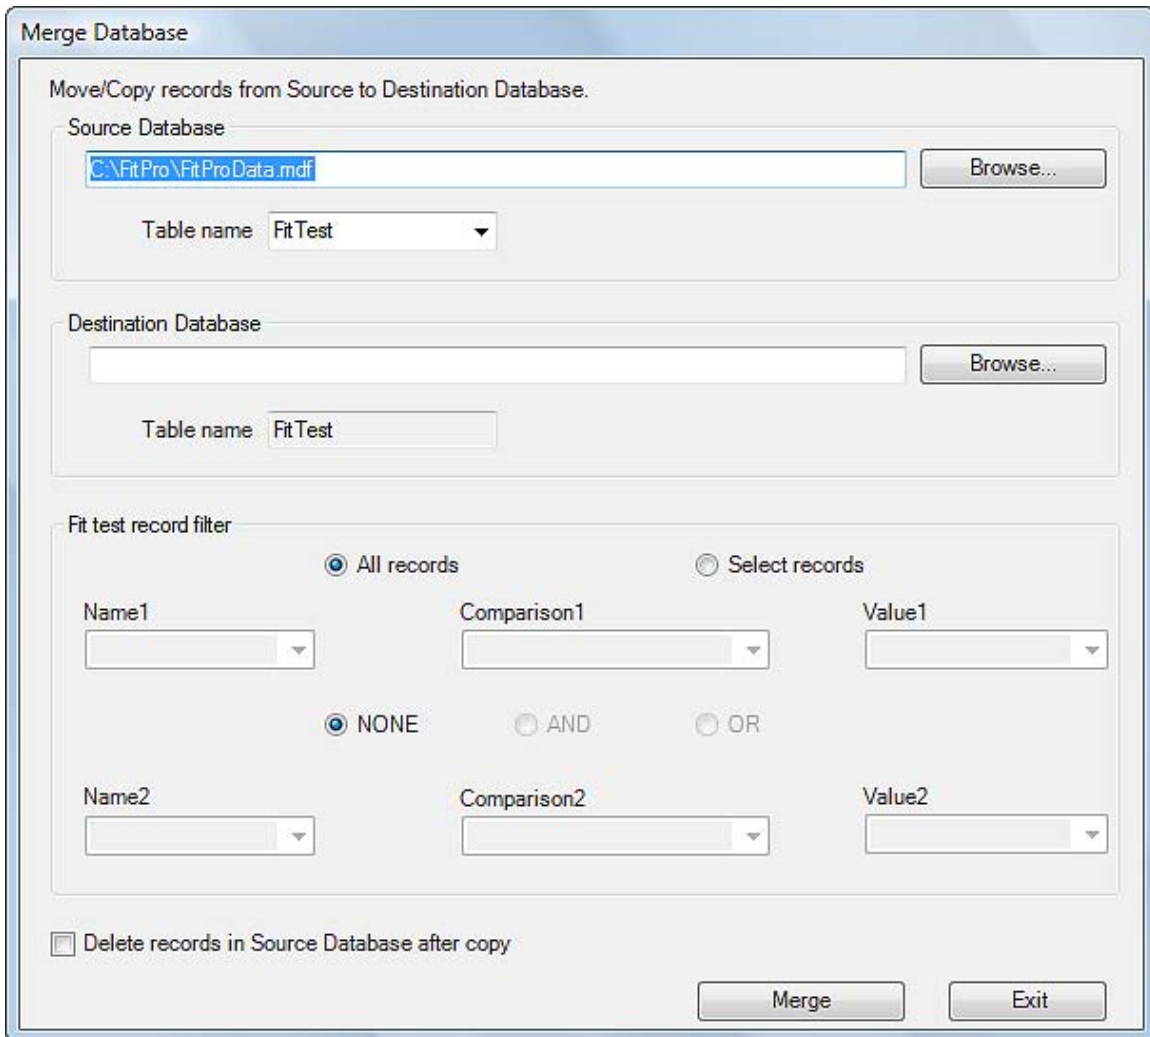

Figure 31. Merge Database Dialog
1. Select **D**atabase | **U**tilities | **M**erge. The Merge Database dialog (Figure 31) appears.